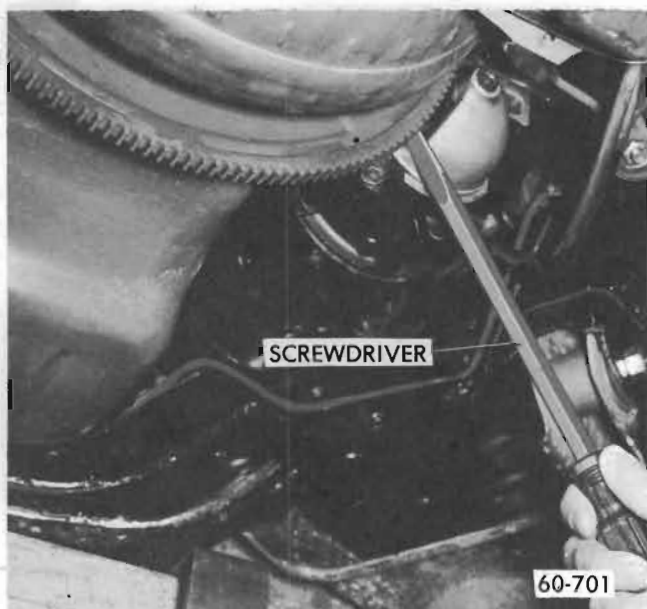

Figure 60-110 - Locking Flywheel to Torque Harmonic Balancer Bolt.(350 cu.in. Shown)
5. Install harmonic balancer, bolt and washer. By using a screwdriver or other suitable tool, lock flywheel and torque bolt to (140-160 lb. ft. on 350 cu.in.) and (200-220 lb. ft. on 455 cu.in.) See Figure 60-110.